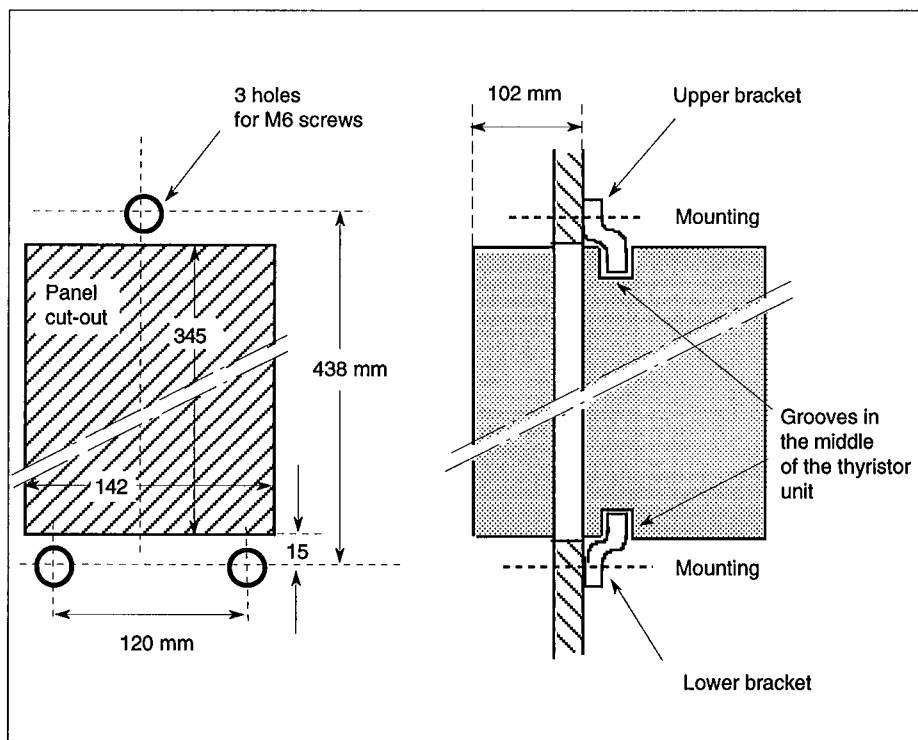

Figure 2-4 TU1450 thyristor unit drilling, cutting and mounting values
- Fix the lower bracket on the panel using **two M6** screws observing the drilling values given (figure 2-4).